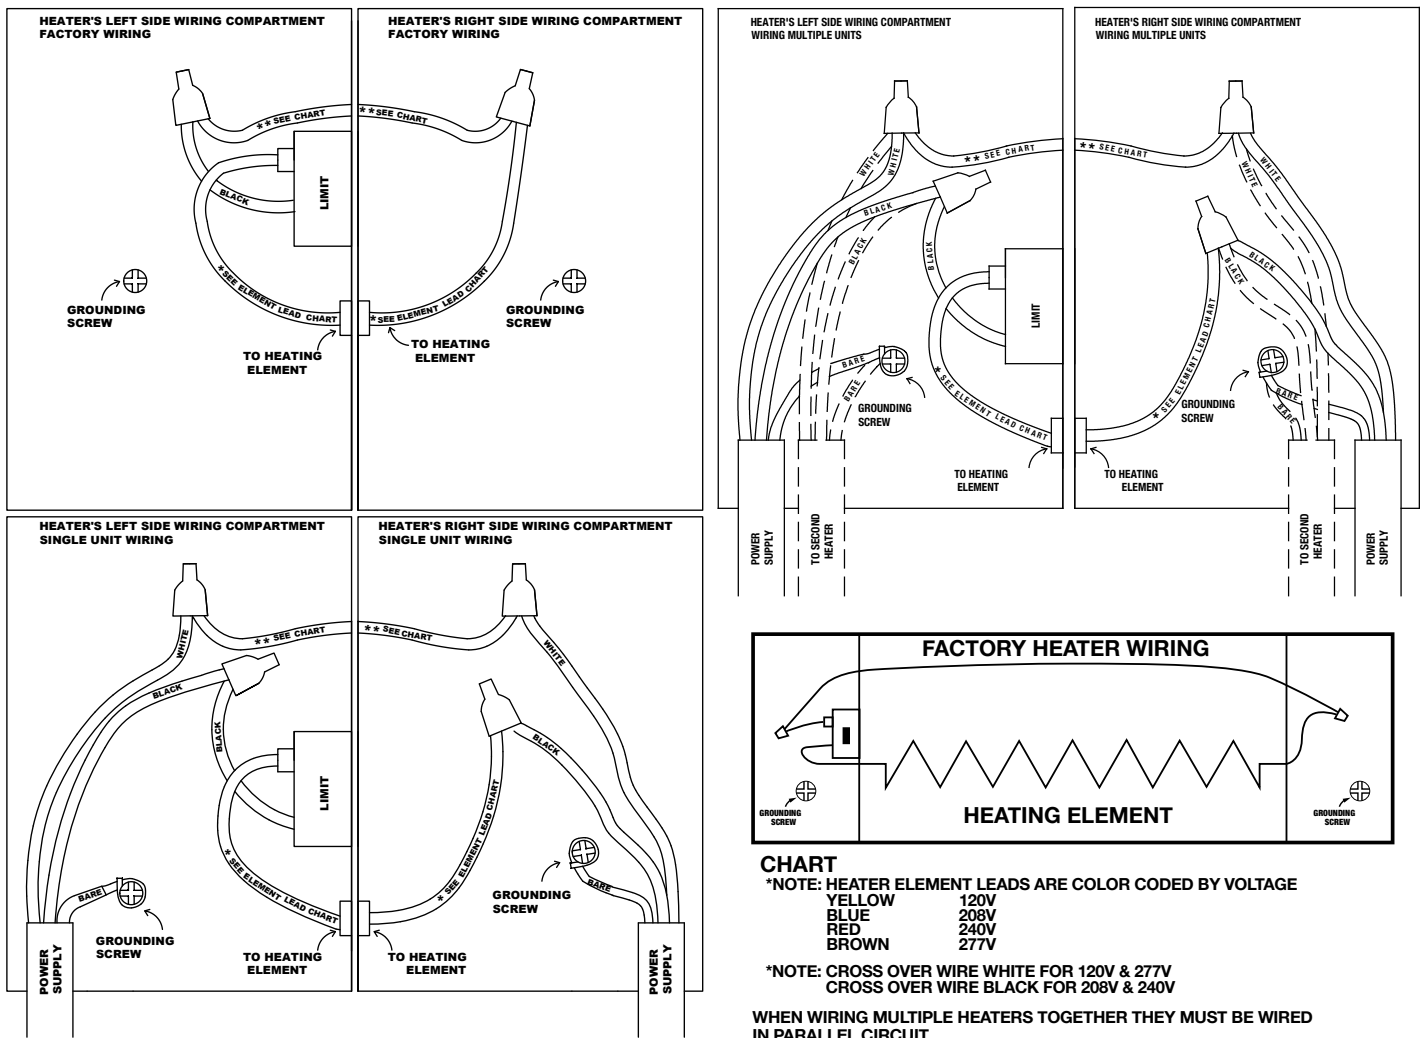

Figure 5: Wiring Diagrams
2. Wiring procedures and connections must be in accordance with the National Electrical Code (NEC) and local codes. Refer to Wiring Diagrams Figure 5. Make sure all electrical connections are tight to prevent possible overheating. Use Copper Supply Wire Only.
- c. Wire heater according to wiring diagrams in Figure 5. Attach the wireway cover using the screws.
8. Follow the desired wiring diagram, as shown in Figure 5, to connect the power supply to the heater using approved wire nuts.